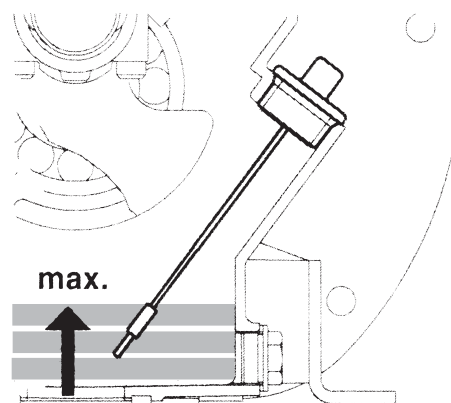

Figure 7. Engine Oil Level
4. If the oil level is low (Figure 7), fill to the edge of the oil filler hole with the recommended oil type (Table 4). Maximum oil capacity is 1.63 quarts (1.55 liters).